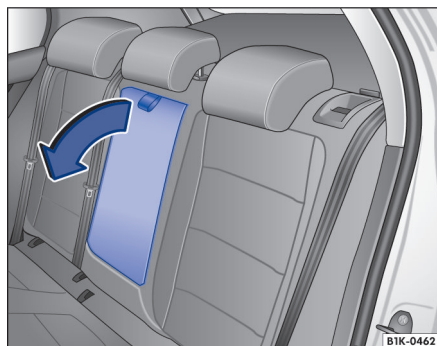

Fig. 63 Rear fold-out centre armrest
- *To fold down:* pull the loop on the centre armrest → Fig. 63 in the direction of the arrow
- *To fold back:* fold the centre armrest upwards in the opposite direction of the arrow → Fig. 63 and push it into the seat back.